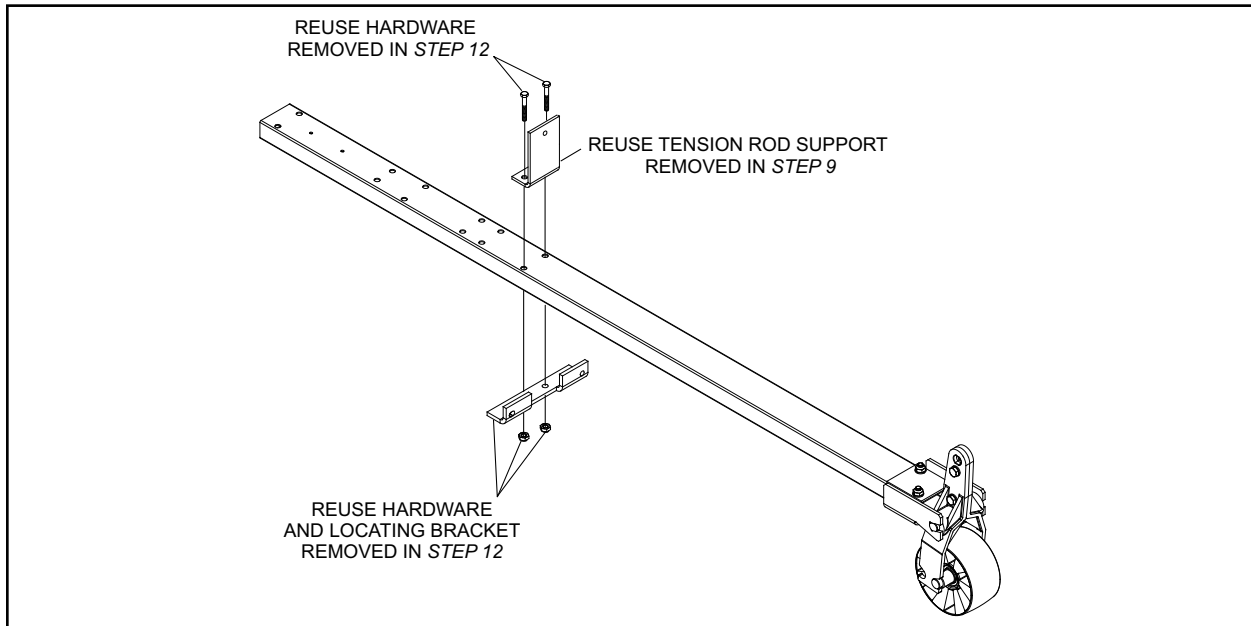

Figure 12. Install Front Locating Bracket and Tension Rod Support Bracket
- Using the mounting hardware from step 12, reinstall the front locating bracket (from step 12) and the tension rod support bracket (*step 9*) in the original location of the locating bracket. Refer to *Figure 12*.
- Slide the new drum support bracket assembly onto the accelerator frame. Secure the bracket assembly and Lower Motor Mounting Plate to the accelerator using the four new hex head cap screws, washers, and locknuts retained during the disassembly of the Belt Drive Assembly. Refer to *Figure 12*.